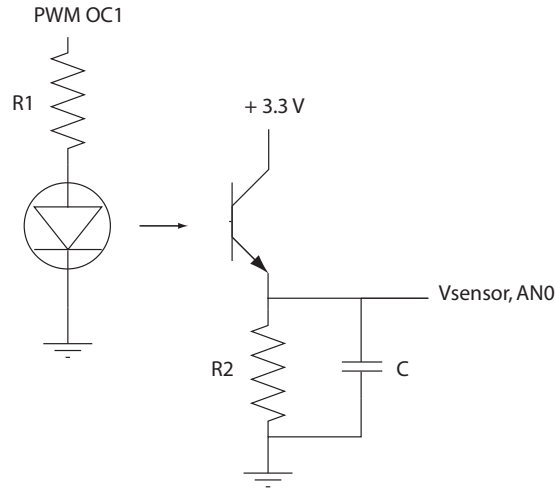

Figure 1: Circuit diagram for LED/Phototransistor, $R1 = 100\Omega$, $C = 10\text{nF}$, see Question 1(b) for $R2$
- (b) Calibrating your sensor is an important step in control applications. For this assignment we are interested in the relationship between the PWM duty cycle at 100kHz and the brightness of the LED as measured by the phototransistor. Wire up the LED and phototransistor as in Figure 1 with $R1 = 100\Omega$ and $C = 10\text{nF}$. You will treat $R2$ as a design parameter in tuning the circuit. Ideally, your choice of $R2$ would allow for the use of the full PWM duty cycle range without saturating the transistor under normal and dark lighting conditions. Instead,
For this assignment you can assume that you will always receive well-formatted inputs (i.e., the user is perfect and will not give your program invalid inputs). You should use `AN0` to read the output signal of the phototransistor and `OC1` to generate a 100kHz PWM signal. If you haven't already, wire up your components as in Figure 1. In the circuit use $R1 = 100\Omega$, $C = 10\text{nF}$, and use your value from Question 1(b) for $R2$. Here are the basics of the program: